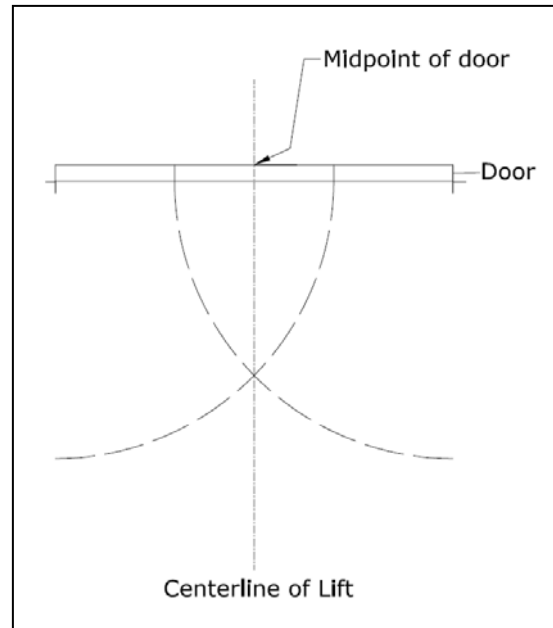

Figure 3. Chalk line
5.2.5 The centerline of the lift occurs between the intersection of the arcs and the midpoint of the door. Refer to Figure 3.